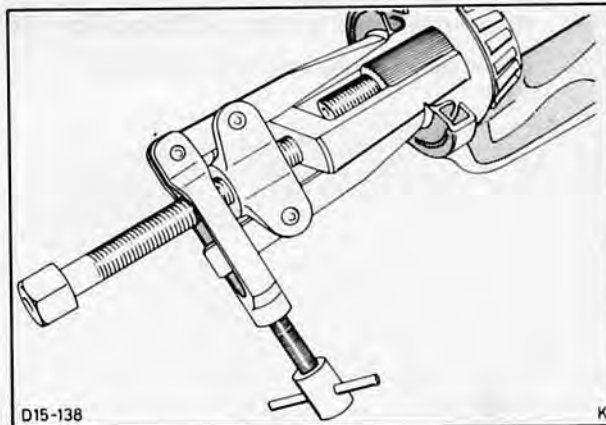

Fig. 136. Remove oil seal with special tool no. 15-048
4. Remove oil seal with Special Tool, Fig. 136.